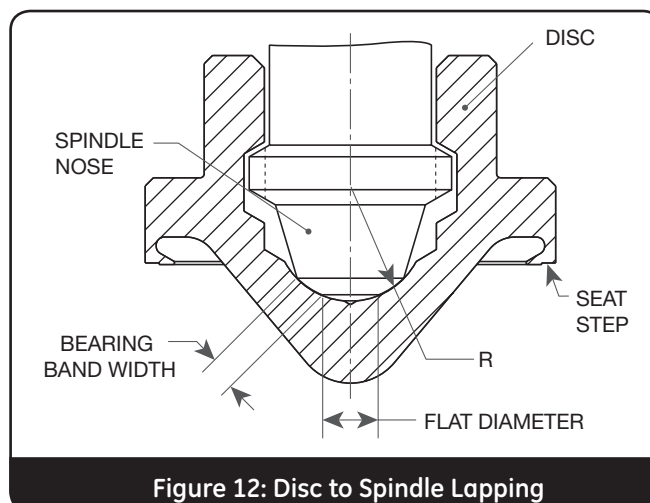

Figure 12: Disc to Spindle Lapping
- The spindle nose should be ground into the disc pocket until the bearing is clearly marked. The band position is shown in Figure 12.